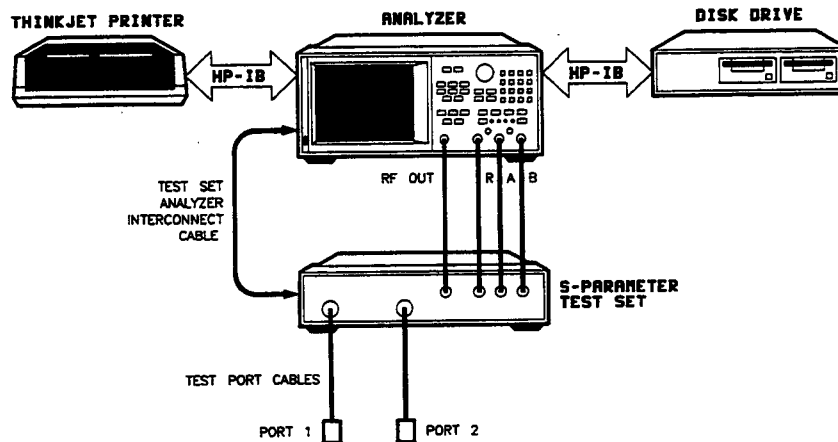
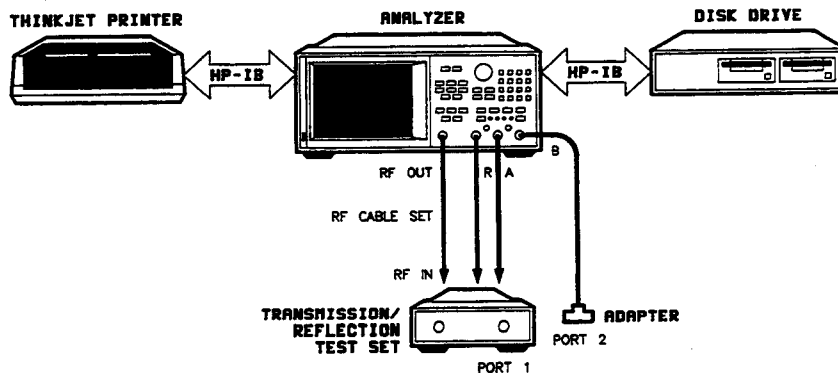

Figure 1. System Verification Setup (S-parameter Test Set)
Figure 2. System Verification Setup (Transmission/Reflection Test Set)
1. Connect the system as shown in Figure 1 for an analyzer with an S-parameter test set. For an HP 8753B/C with an HP 85044A Transmission/Reflection Test Set, see Figure 2.